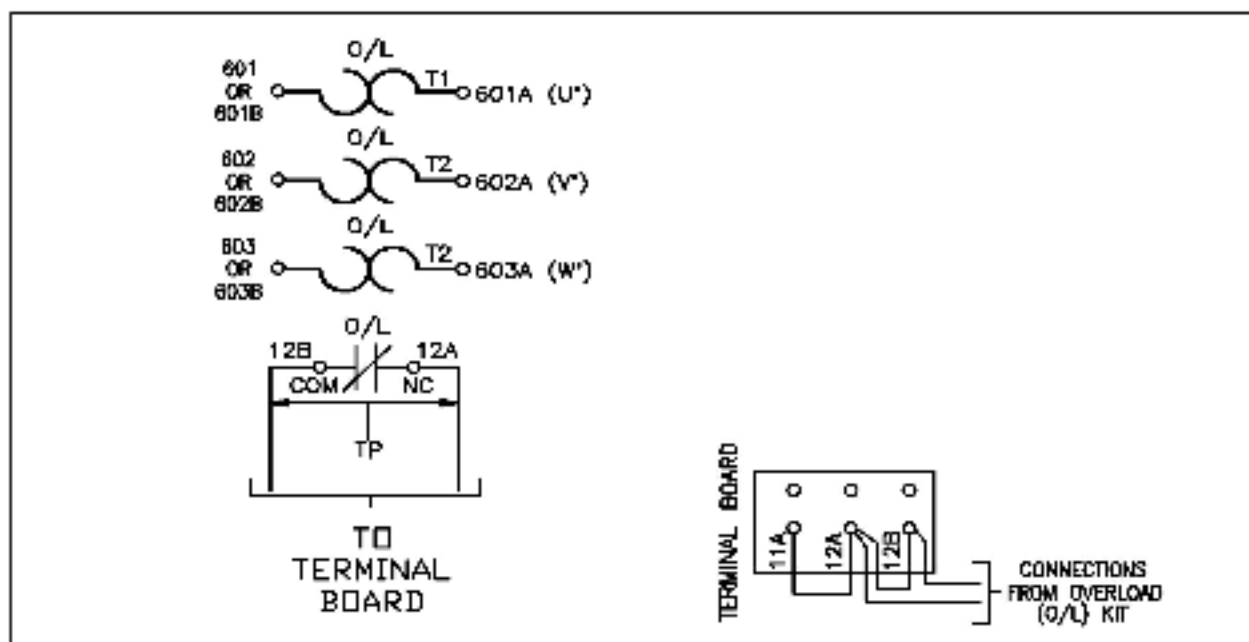

Figure 5. Overload Relay Connection Diagram
10. Using wire harness 611899-62R, connect from terminals NC and COM on the overload relay to terminals 12A and 12B on the terminal board assembly. Refer to Figure 5 for wiring detail.
11. Using wire harness 611899-51A, (803432-87V for 25–50 HP GP2000, VTAC V) 611899-51B, (803432-87W for 25–50 HP GP2000, VTAC V) and 611899-51C (803432-87X for 25–50 HP GP2000, VTAC V) connect overload relay output terminals T1, T2, and T3 to the terminal board (601A/U', 602A/V', 603A/W'). Refer to Figure 5 for wiring detail.